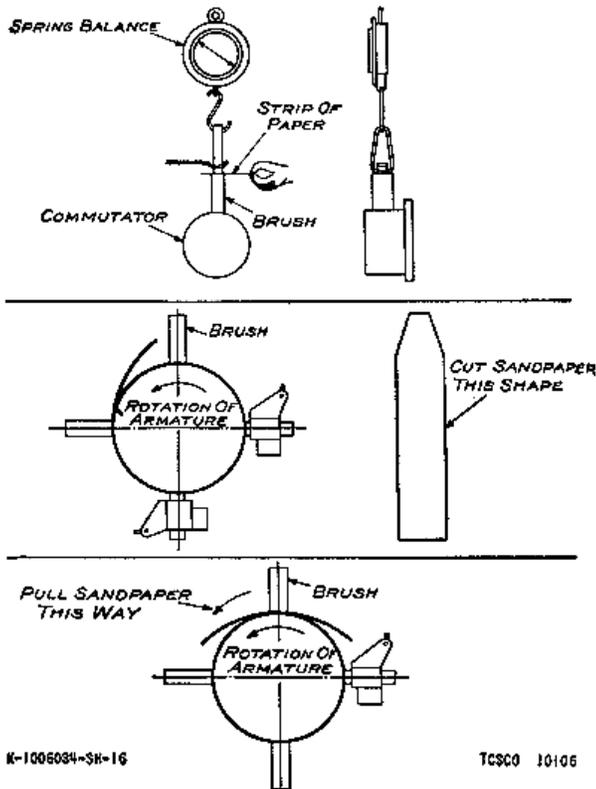

Figure 12. Method of sanding and obtaining brush pressure.
- (4) When a complete set of brushes is to be fitted, and where conditions permit, wrap a piece of sandpaper around the commutator and rotate the armature in the proper direction, the sandpaper being held in place so that it rotates with the commutator. Refer to figure 12 for method of sanding.
- (5) Proper brush pressure should be maintained, as specified in paragraph 80d. It is important that all brushes be adjusted to the same pressure, as unequal brush pressure will cause unequal current distribution in the brushes. Refer to figure 12 for method of measuring the brush pressure.
- (6) Maintain $\frac{1}{8}$ -inch clearance between the bottom of brushholder and the commutator. The support is arranged in such a way that the brushholder studs may be moved toward the commutator surface as the commutator wears or is turned, so as to maintain the $\frac{1}{8}$ -inch clearance between the face of